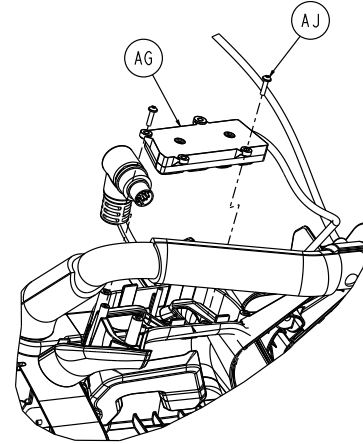

Figure 86 – Remove the UI cable assembly and screws
6. Using a T10 Torx driver, remove the two round washer head tapping screws (AJ) that secure the UI cable assembly (AG) to the button housing (Figure 86). Save the screws and cable assembly.